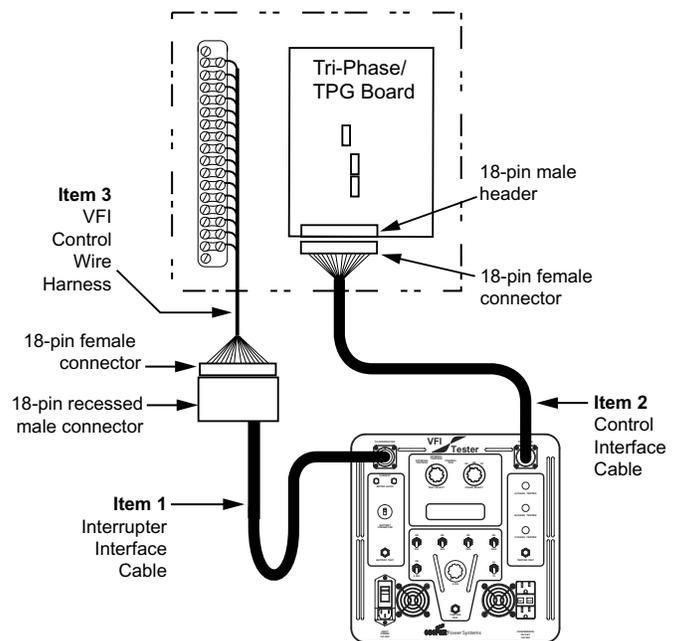

Figure 5. Connection of VFI Tester to top-hinged VFI units with TPG controls and all VFI units with Tri-Phase controls.
3. Connect the 14-pin female/18-pin male interrupter interface cable (Item 1) to the VFI Tester at the interrupter port. Refer to Figure 5 for steps 3 through 8.
3. Disconnect the 18-pin female connector end of the tester control interface cable (Item 2) from the 18-pin male header of the Tri-Phase/TPG board. Refer to Figure 5 for steps 3 through 7.